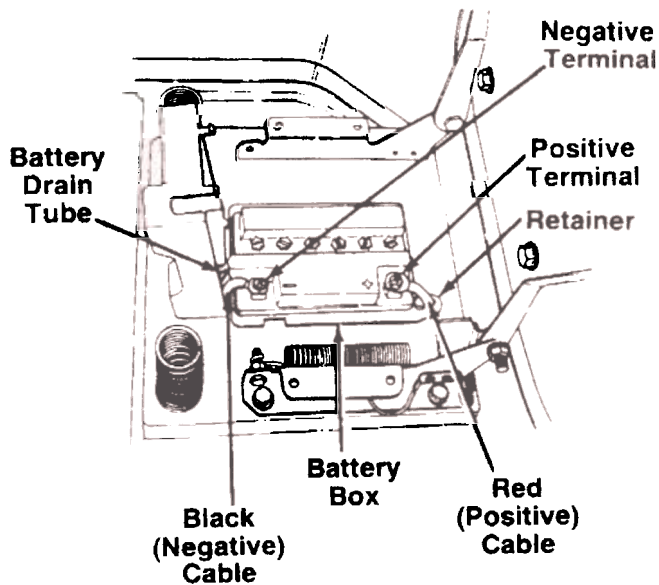

FIGURE 3.
3. Place the battery inside the battery box so that the positive terminal is toward the front of the unit. See figure 3. Route the battery drain tube down beside the battery box.
4. Slide the hex nut (provided with battery hardware) into the positive (+) terminal. Place the positive cable on the positive terminal. Secure with bolt provided. See figure 3.